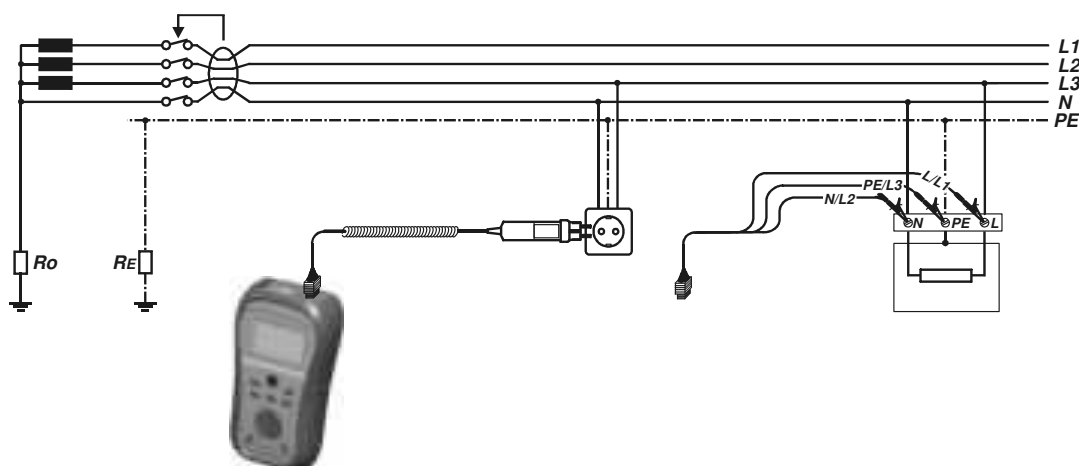

Figure 5.17: Connecting the plug cable and the universal test cable
- ❑ **Connect** test leads to the item to be tested (see *figure 5.17*).
- ❑ **Connect** test leads to the item to be tested (see figure 5.17).
- ☐ **Connect** test leads to the item to be tested (see *figure 5.17*).